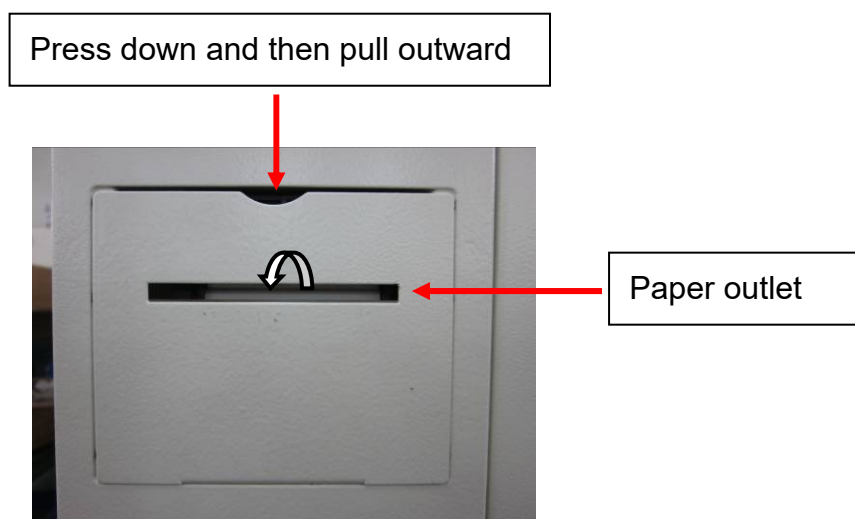

Figure 156
- B. Press down and then pull outward the rim of the printer cover (See Figure 156).